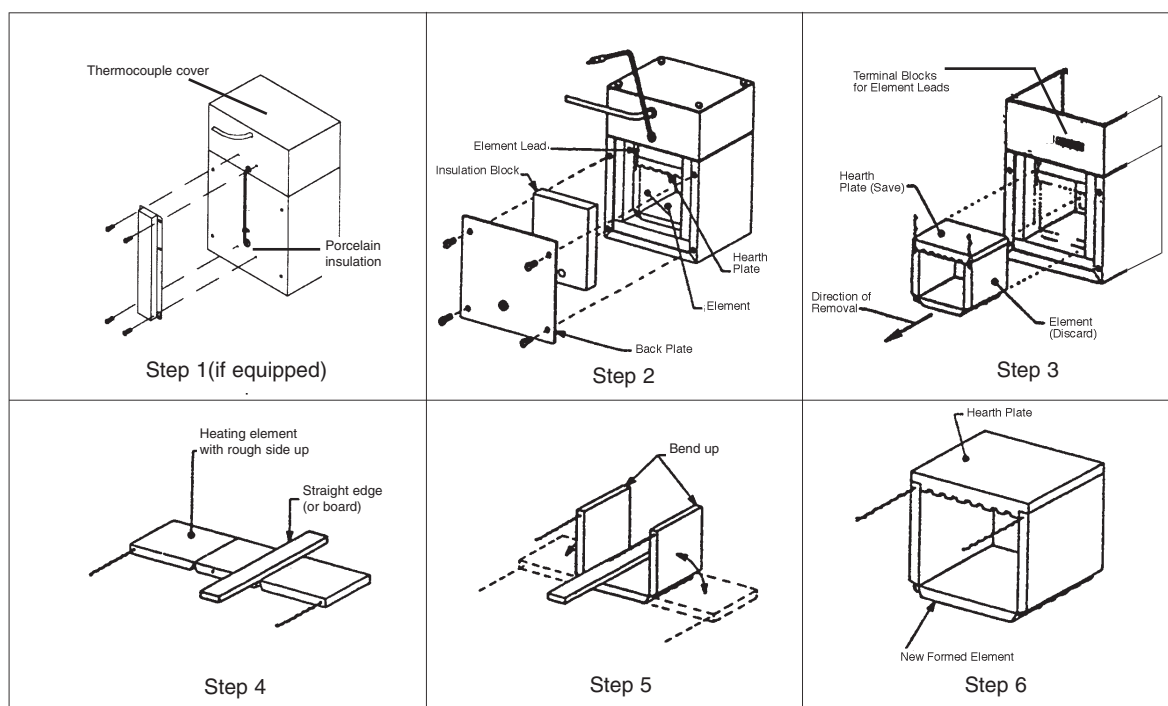

Figure 3: Replacement of a Heating Element
1. Set the furnace on its top. (See Figure 3). Remove thermocouple cover. (If equipped.)